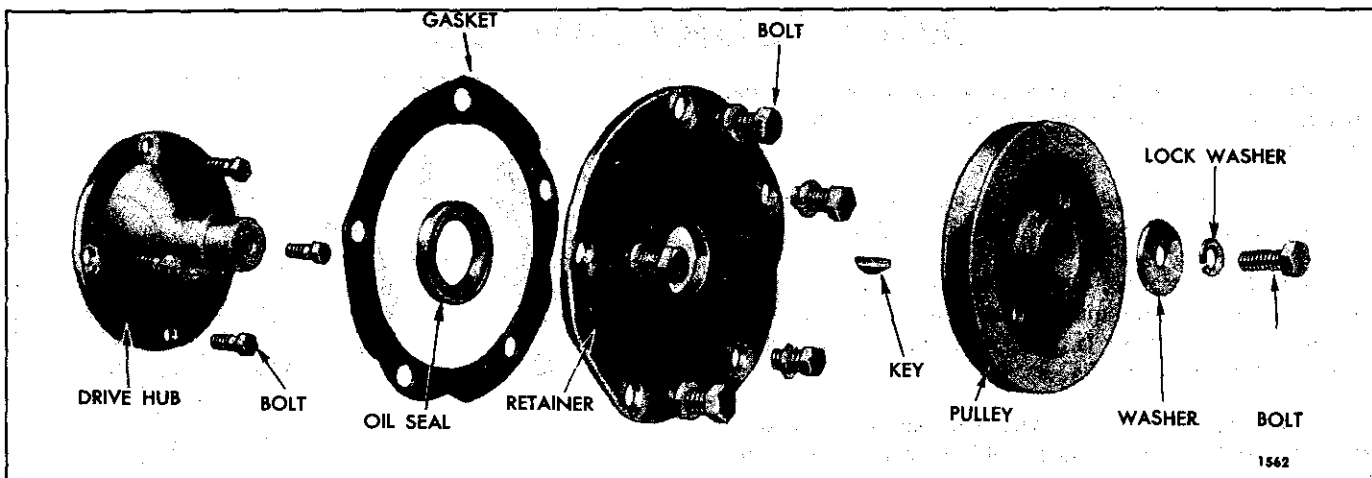
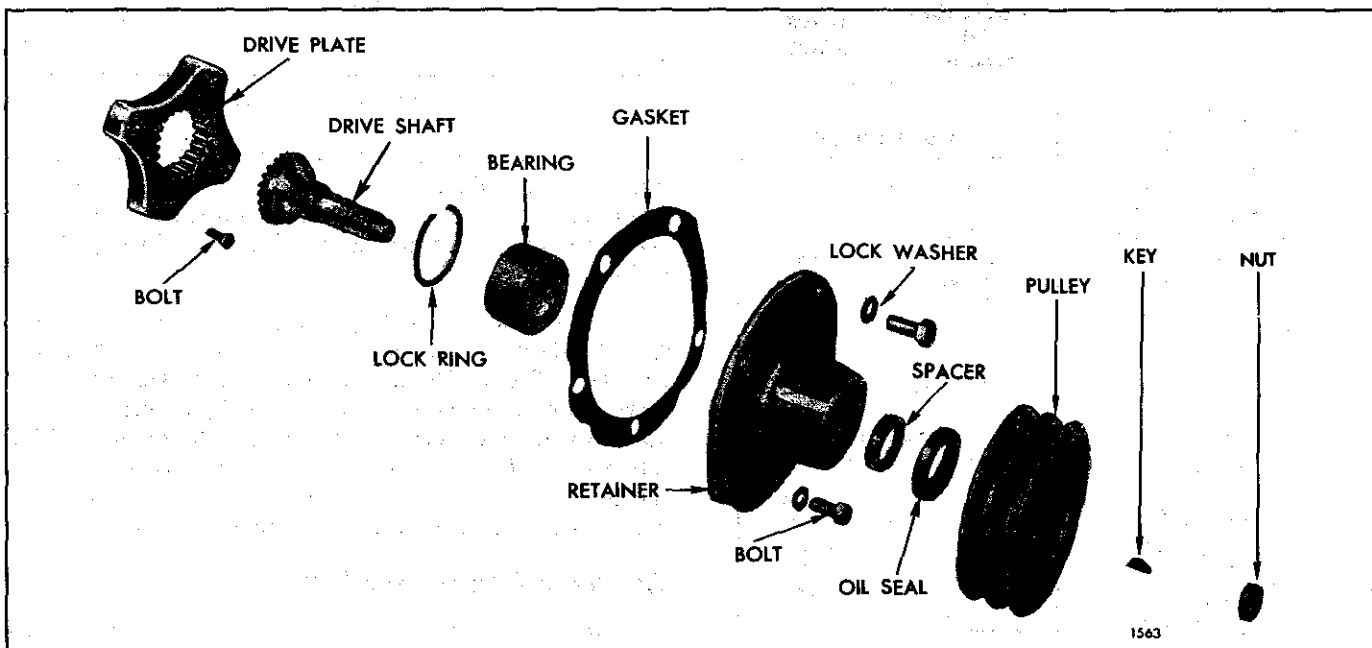
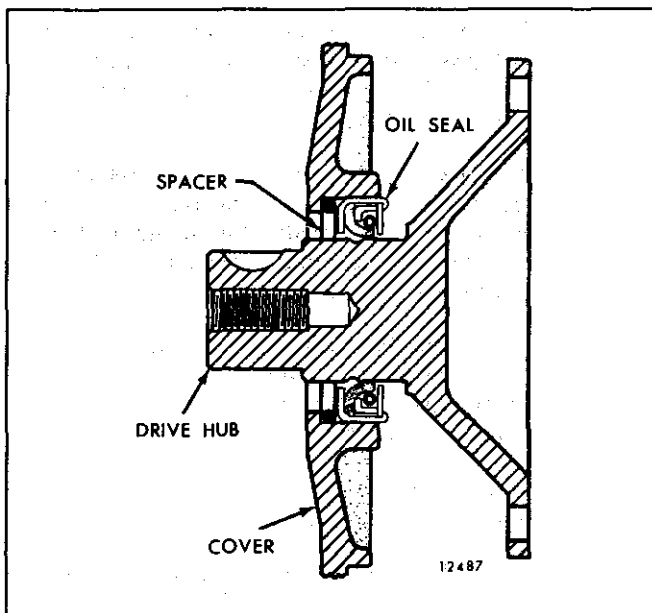

Fig. 4 – Components of Accessory Drive for Belt-Driven Accessory (Drive Hub Type)
Fig. 5 – Components of Accessory Drive for Belt-Driven Accessory (Drive Plate Type)
Fig. 7 - Location of Oil Seal Spacer
In the first arrangement, illustrated in Fig. 4, the drive hub is bolted to the camshaft or balance shaft gear. The oil seal retainer is bolted to the flywheel housing and the pulley is keyed to the drive hub shaft which extends through the oil seal retainer.
In the second arrangement, shown in Fig. 5, the spacer and accessory drive plate are bolted to the camshaft or balance shaft gear. The accessory drive shaft is splined to the drive plate at one end and supported by a bearing in the accessory drive retainer at the other end. The accessory drive retainer, which also incorporates an oil seal, is bolted to the flywheel housing. The pulley is keyed to the drive shaft which extends through the drive retainer assembly.
3. Remove the bolt and washer (Fig. 4), or nut (Fig. 5), retaining the pulley on the drive shaft.
6. Remove the accessory drive shaft, drive plate and spacer (Fig. 5), or drive hub (Fig. 4), in a manner
7. Remove the snap ring and ball bearing from the accessory drive shaft retainer assembly shown in Fig. 5.
Inspect the ball bearing used to support the accessory drive shaft shown in Fig. 5. Wash the bearing in clean fuel oil and dry it with compressed air.
Shielded bearings must not be washed; dirt may be washed in and the cleaning fluid could not be entirely removed from the bearing. Wipe the outside of the bearing clean, then hold the inner race and revolve the outer race slowly by hand. If the bearing is worn or does not roll freely, replace the bearing. Inspect the accessory drive hub, shown in Fig. 4, for grooving at the area of contact with the lip of the oil seal. If the hub is grooved to a point where the effectiveness of the oil seal is lost, a ring type oil seal spacer is available which serves to reposition the seal, thus providing a new sealing surface for the lip of the seal (Fig. 7).
4. If the accessory drive shown in Figs. 5 or 6 is used, assemble as follows:
5. Assemble the accessory drive shown in Fig. 4 as follows: